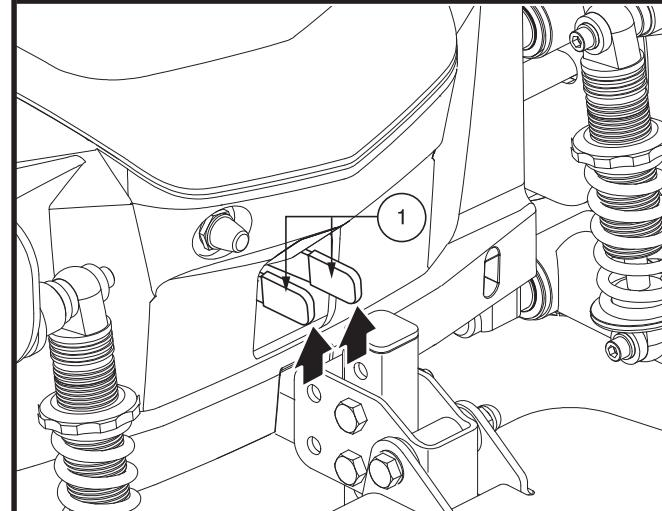

Figure 5. Freewheel Mode (Drive Disengaged)
3. Pull the two levers upward to disengage the drive motors (freewheel mode). See **figure 5**.